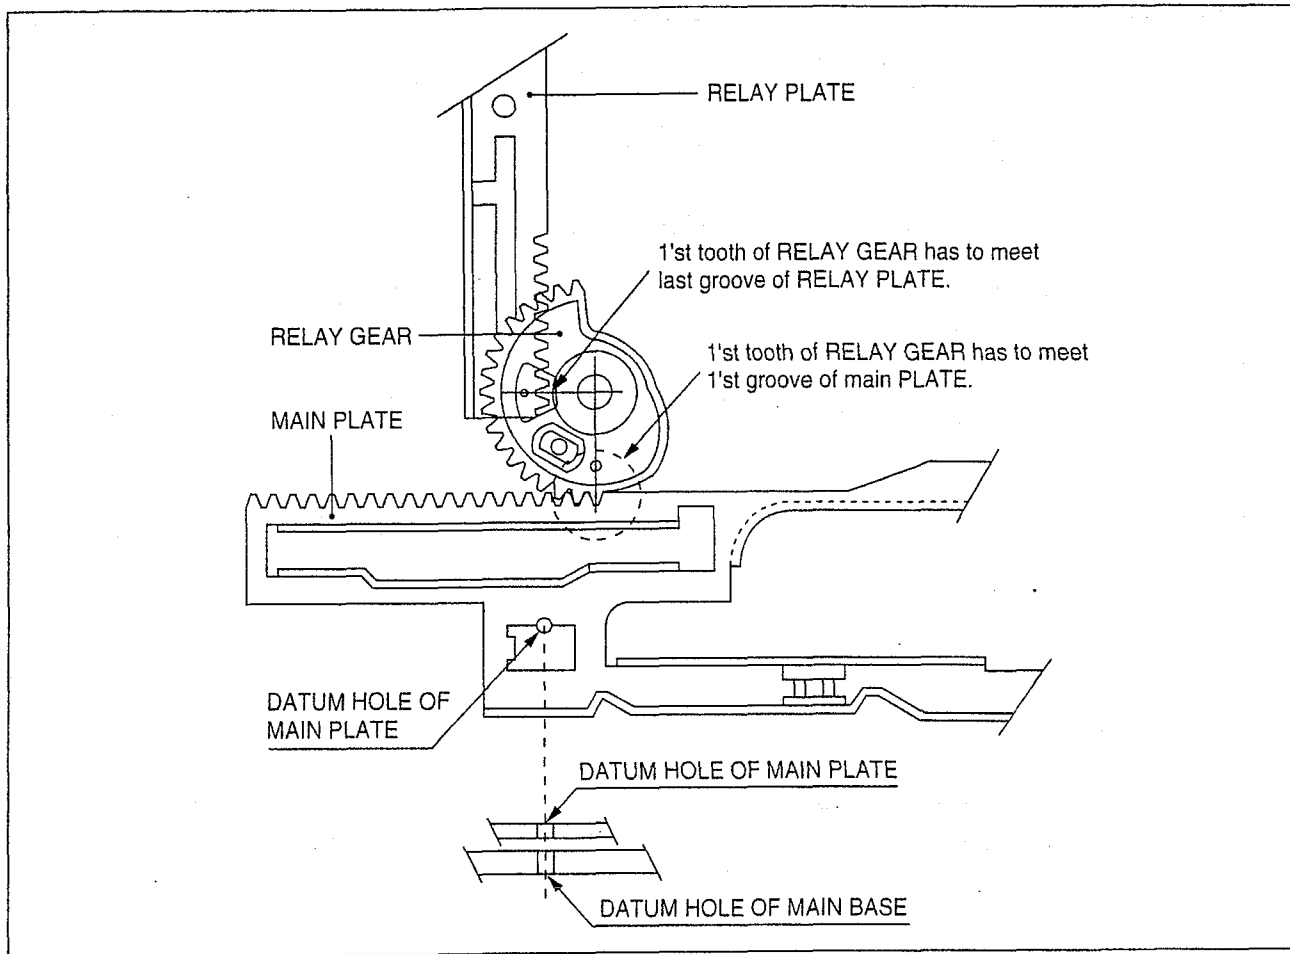

Fig. 4-3 DATUM POSITION OF MAIN PLATE & RELAY GEAR
- When reassembling, pay attention to the assembly position of the MAIN PLATE and RELAY GEAR. (See Fig. 4-3)
- 5) Make sure that the datum hole of the MAIN PLATE meets that of the MAIN BASE in the Eject Mode as shown in Fig. 4-3.
- 6) When installing the RELAY GEAR, make sure that the triangle mark meets the last groove of the teeth of the MAIN PLATE in the Eject Mode as shown in Fig. 4-3.